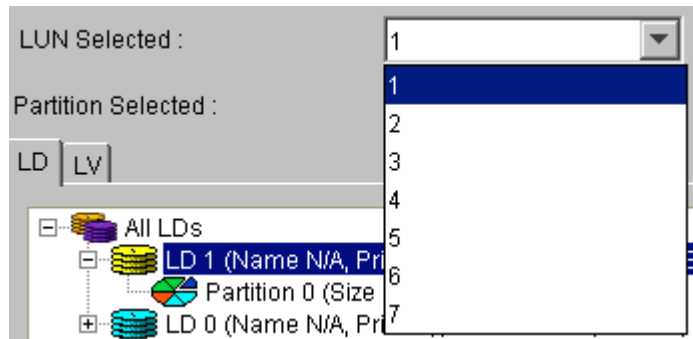

Figure 9-8: Available LUNs
Step 7. From the **LUN Selected** drop-box in *Figure 9-8*, choose the LUN ID that will be assigned to the LD (or LV). Only unused IDs will be listed.